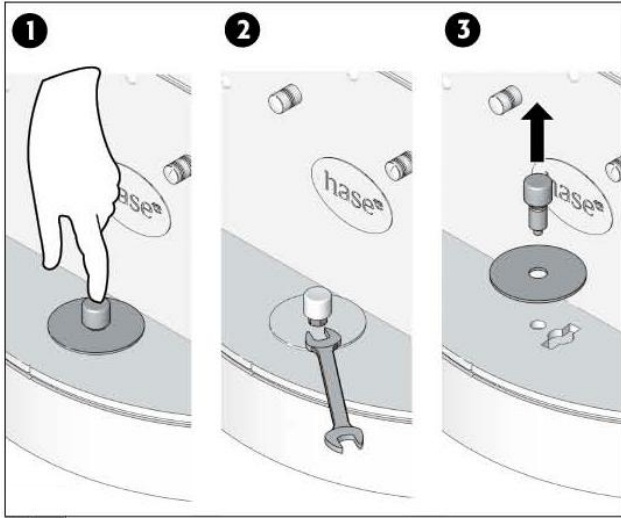

Figure 4: Remove Mounting Screw
3. Press the control lever and release. Using a 13mm wrench, remove the hex screw at the base of the control knob and washer (see fig. 4).